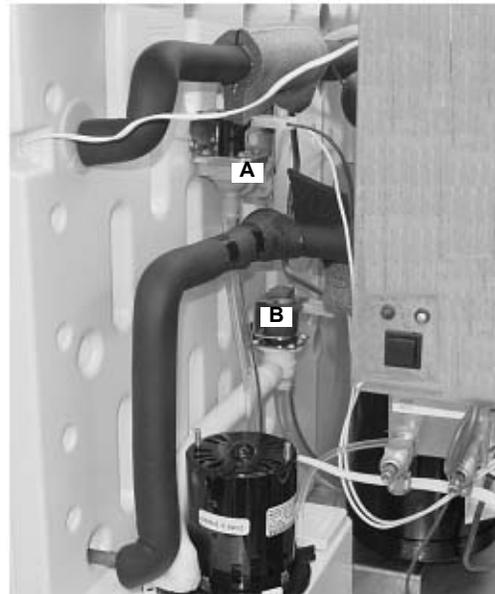

Figure 50.
52. Connect the water fill valve harness (A) (black & white leads) and the water dump valve harness (B) (yellow and white leads) (Figure 50).